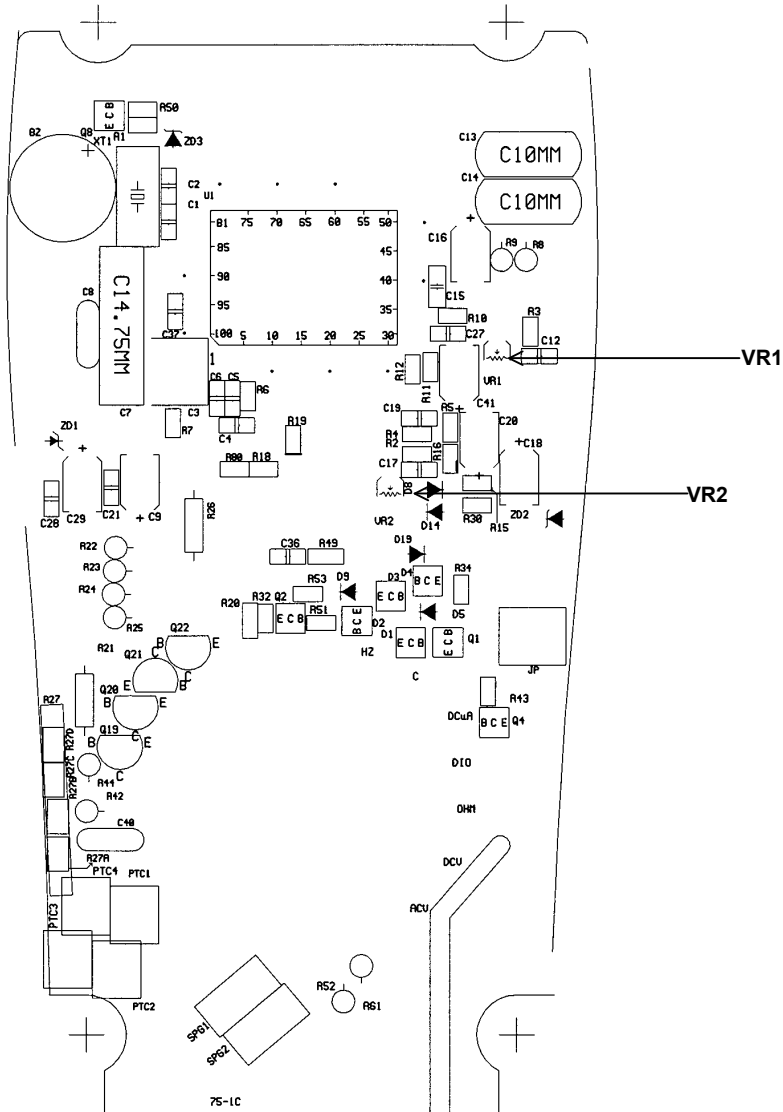

Figure 4 61-320 Calibration Adjustment Points
### **(A) DCV Calibration (Adjust VR1) (refer to Figure 4 & 5)**
### **(B) ACV Calibration (Adjust VR2) (refer to Figure 4 & 5)**